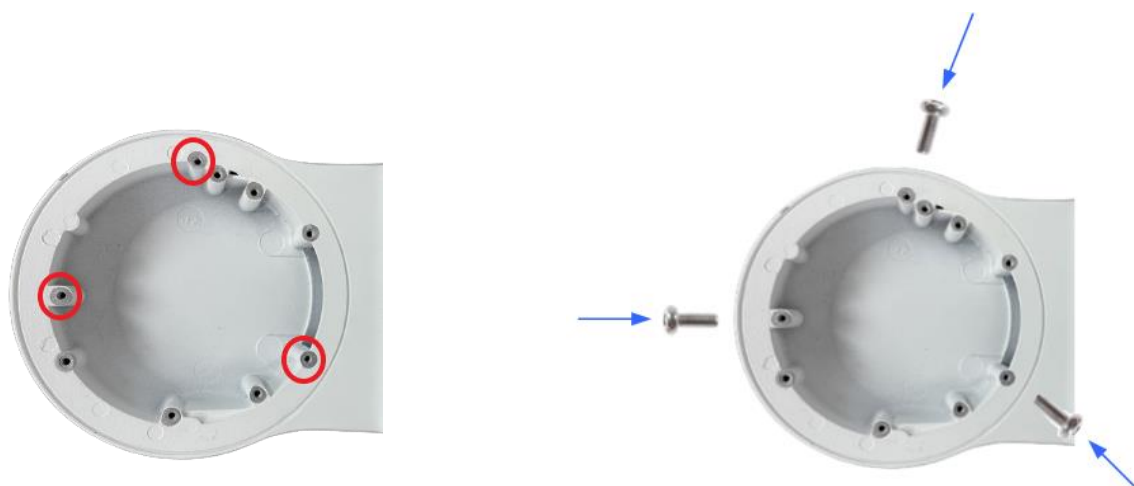

Figure 1-26
8. Thread the Ethernet cable through the PG21 conduit connector and the power box as shown in No. 8, *Figure 1-26*. Then connect the cable to the camera. To waterproof the cable, see *1.8 Waterproofing the Cable*.